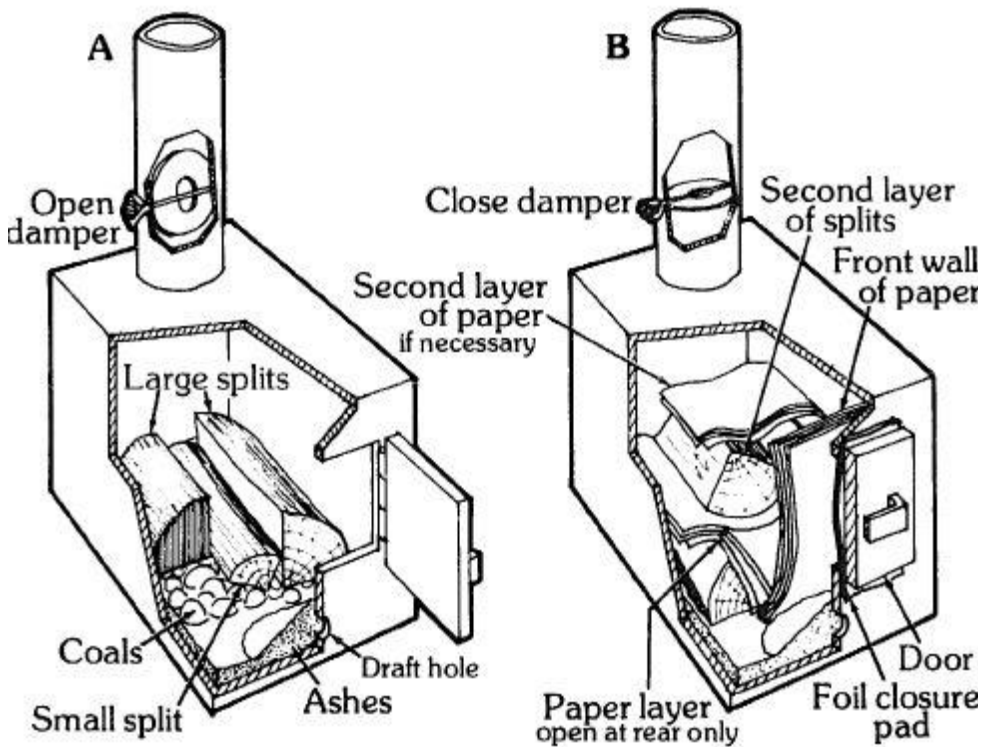

Figure 7.6 - Two of the stages in setting an overnight fire. In Drawing A the foundation is laid. In Drawing B it is all tucked in and the damper is closed.
4. Place a smaller split of wood on top of the coals, between the two larger splits. This completes the foundation - the heart of the fire (Figure 7.6, Drawing A). If it behaves as it should, the rest of the fire will take care of itself.
9. Close the damper. The fire is now set (Figure 7.6, Drawing B).